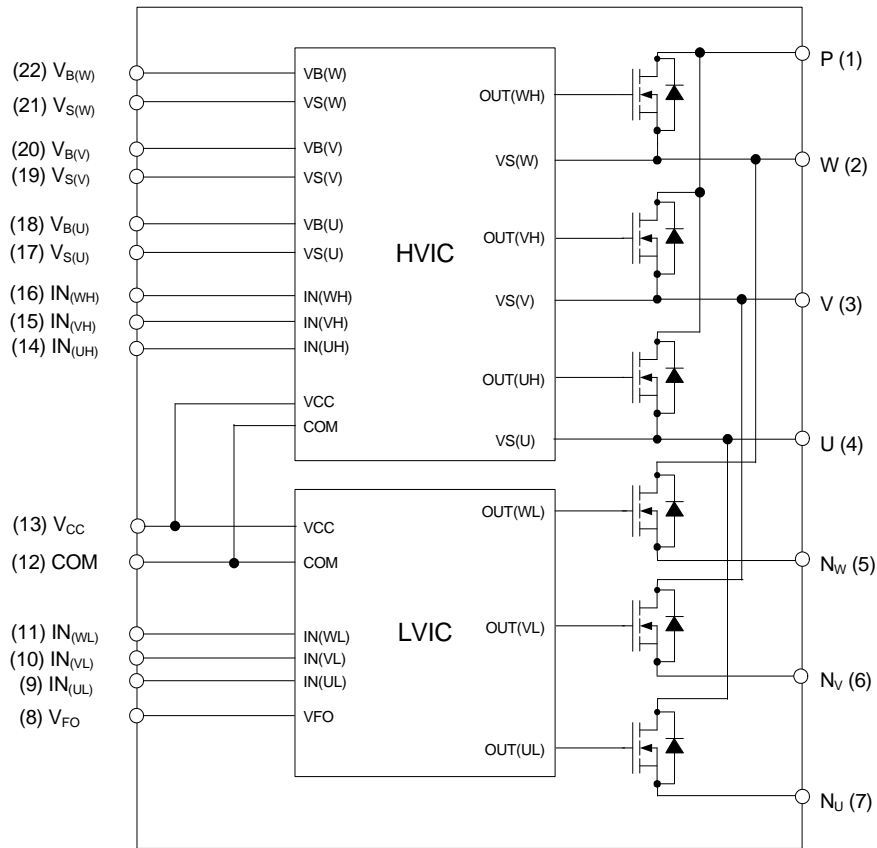

Figure 3. Internal Block Diagram
- 40 V $R_{DS(ON)} = 2.1 \text{ m}\Omega$ (typ.) inverter for three-phase DC / AC power conversion (please refer to Figure 3)